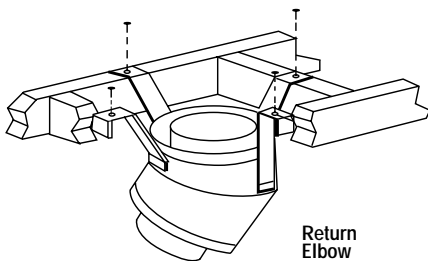

Figure 39
Step 5. Secure support straps to framing members by nailing under tension in sheer (*Figure 39*).